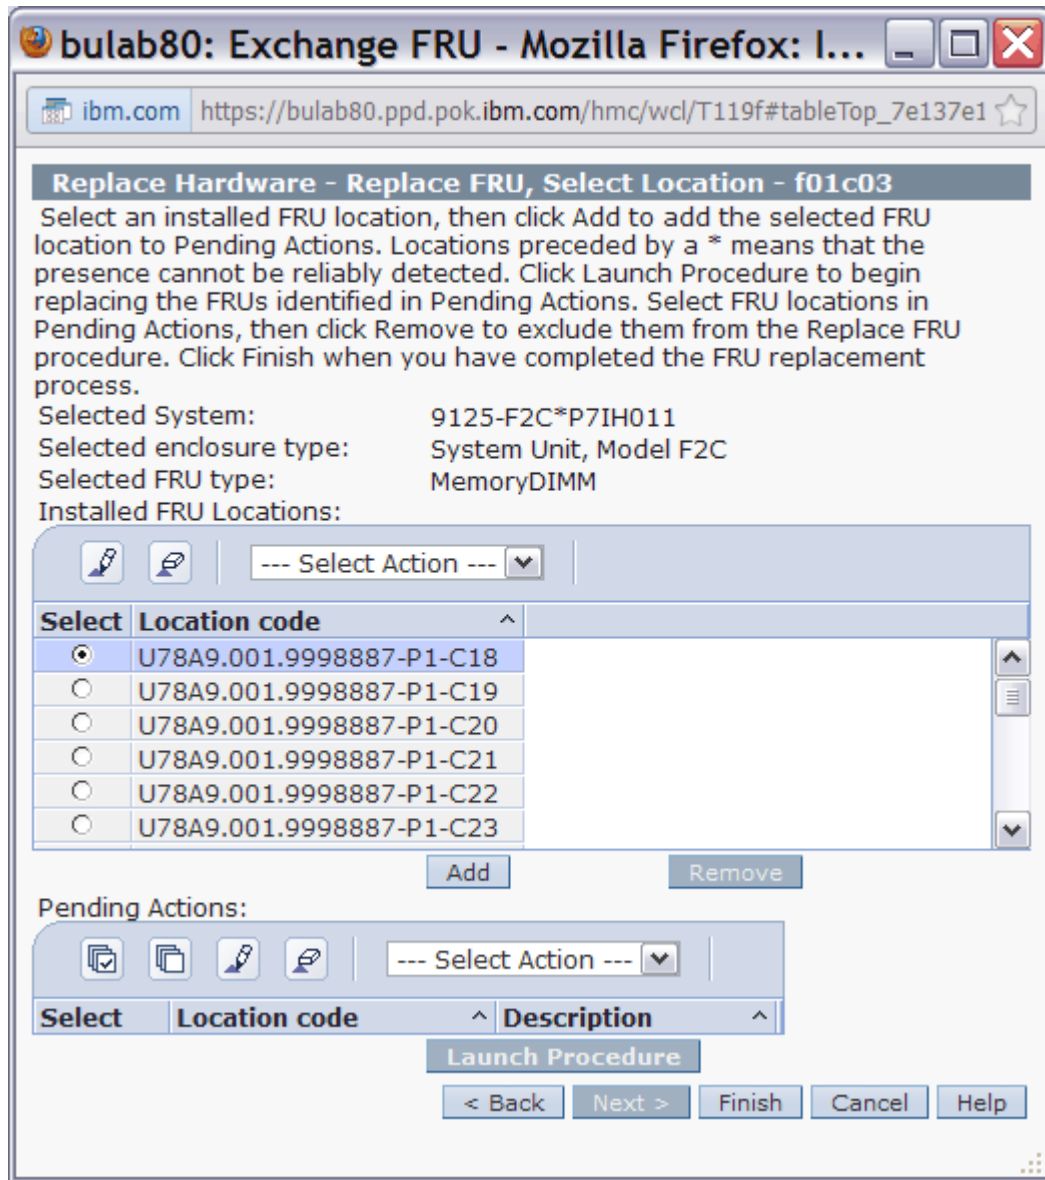

Figure 8 FRU Location Code selection
STEP 12 In the Replace **Hardware – Replace FRU, Select Location** window *select* the FRU Location code to be serviced then *click* the **Add** button. See Figure 8.